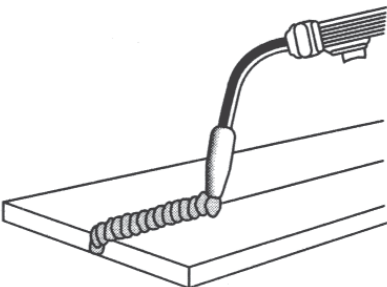

**Figure 13.** Weave Bead
2. The **WEAVE BEAD** (Figure 13) is used when you want to deposit metal over a wider space than would be possible with a stringer bead. It is made by weaving from side to side while moving with the gun. It is best to hesitate momentarily at each side before weaving back the other way.